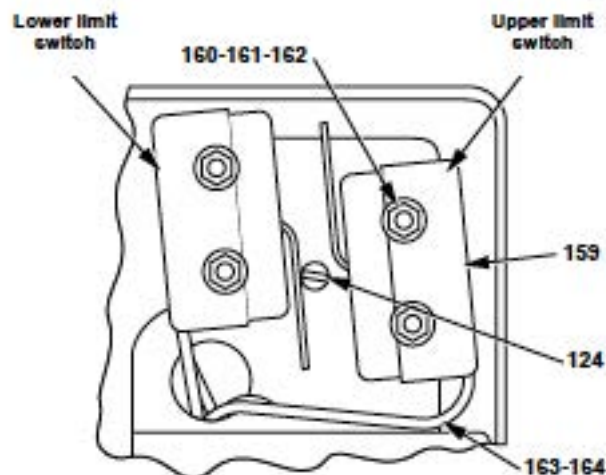

Figure 13 - Limit switch installation
3.4 Limit Switches (Figure 13)